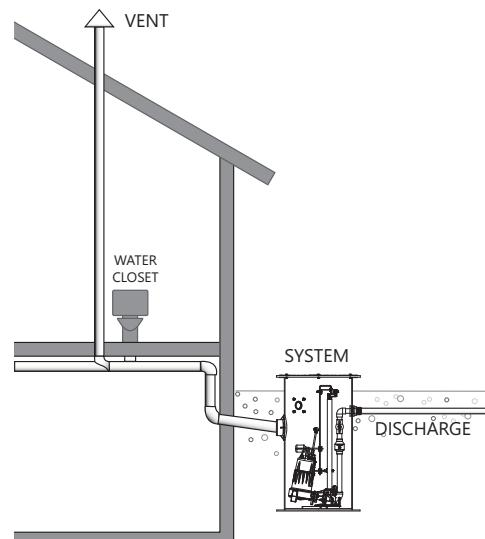

Figure 6. Example Venting—Alternative Method
- B. Vent:** A 2" or 3" vent connection is provided on top of the 1100-Series unit. The P680-Series' vent is in the tank. The vent must be piped to the existing building vent, or extended outside on its own standpipe. The vent size should be in accordance with applicable codes, but not less than the discharge size. See Figure 6 for an example of venting through the inlet pipe as an alternative solution.